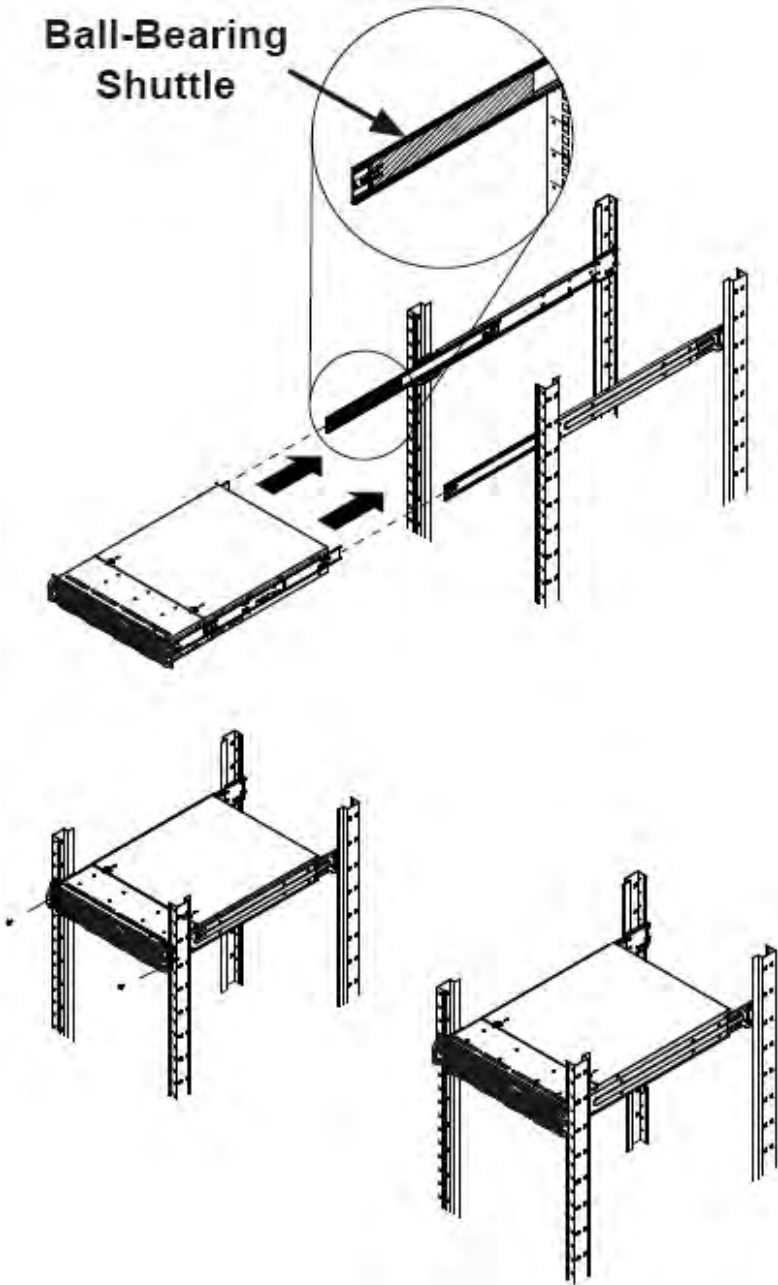

Figure 2-6. Installing into a rack
3. Remove the four screws (two on the sides and two on the top) that secure the top cover to the chassis. Place your thumbs in the two rectangular recesses and push the cover away from you (toward the rear of the chassis) until it stops. You can then lift the top cover from the chassis to gain full access to the inside of the server (see Figure 2-6).